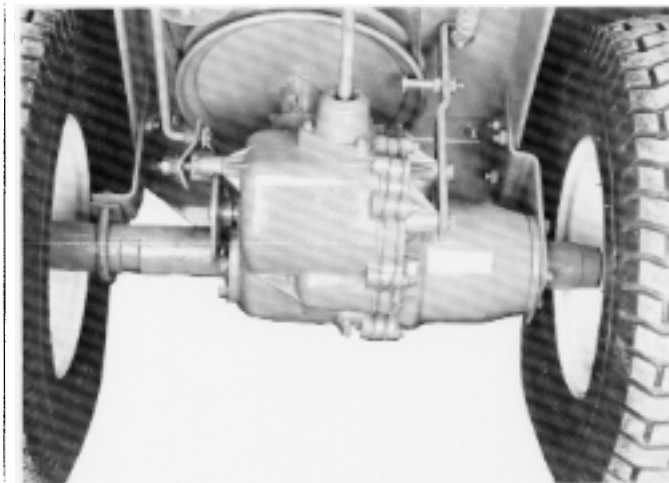

Fig. 5-4 B-Series Transaxle
5. Remove 3 bolts from transaxle support bracket. Fig. 5-4.